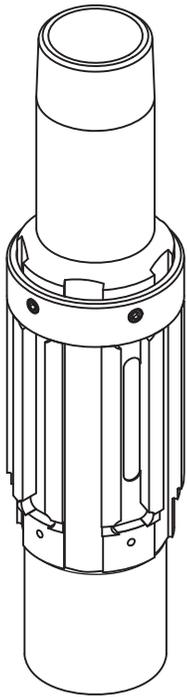

Figure 5
- 1.) Stand the anchor body upside down (pin end up) and install the retaining ring, and secure into place using the hex-socket cap screws. Torque the screws to at least 30 ft-lb (Fig. 5)